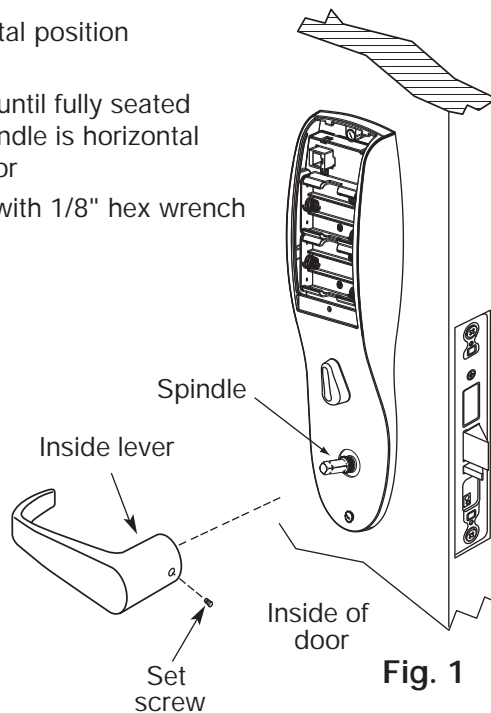

Fig. 1
1. Put the turn lever in the horizontal position (Ref. Fig. 1).